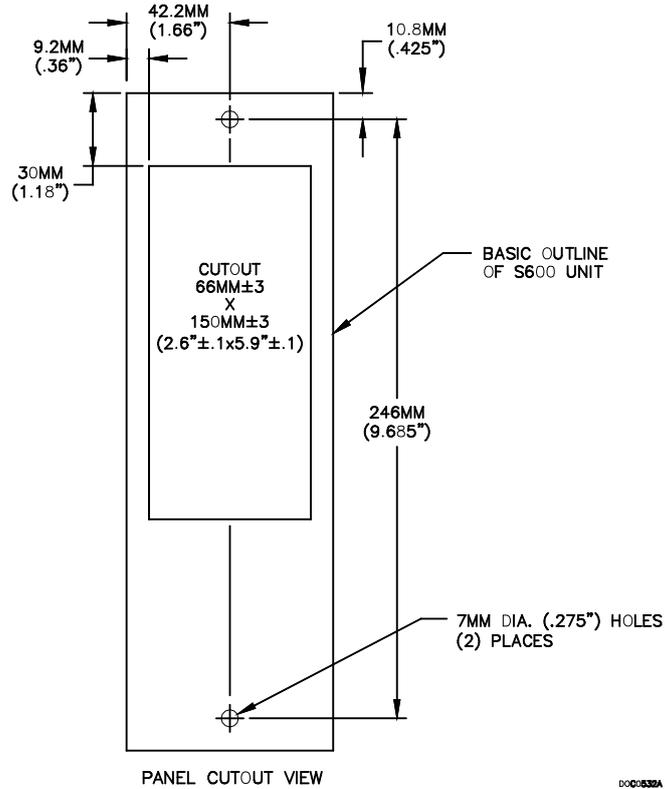

Figure 2-6. Panel Cutout Dimensions
2. Refer to *Figure 2-6* and *Table 2-1* for position details for two 7 mm (0.276 in) holes and a cutout. The panel cutout should be rectangular for each S600+. Allow a tolerance of  $\pm 3$  mm (0.12 in) on each axis.